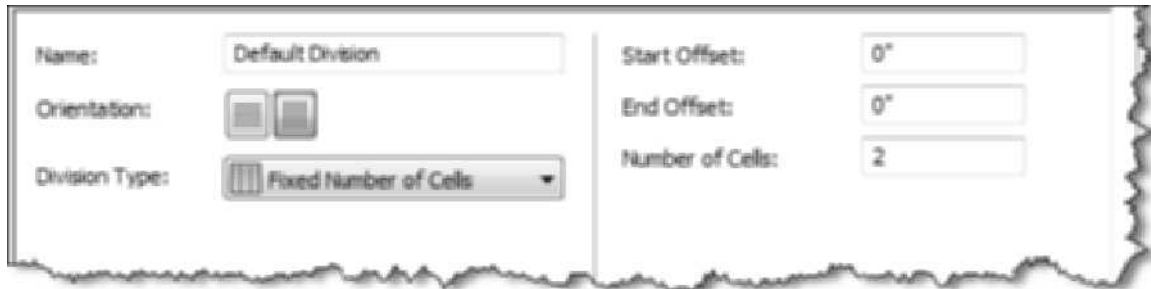

FIGURE 6.9 Specifying Fixed Number of Cells
8. Options for the Division Type are Fixed Cell Dimension, Fixed Number of Cells, or Manual. Choose the Division Type flyout to specify **Fixed Number of Cells** as shown in Figure 6.9. Choose the Viewer in the lower-left corner to view the door/window assembly after the edit. The number of cells is specified to 2; therefore there are only two cells.